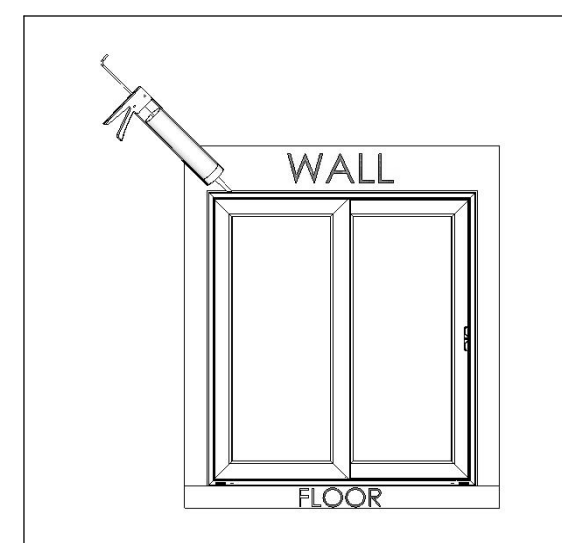

FIGURE 6
**9-** Before applying any outside or inside trims and flashing, apply high quality caulking where the fiberglass insulation material could not be applied. Do not fill weep holes. Don't omit any of the caulking steps and make sure that local building codes and manufacturers instructions are followed when applying insulation, air/water barriers, flashing and caulking.(FIGURE 6)